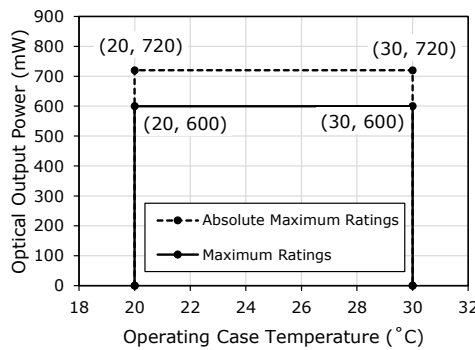

Figure 1. Derating Characteristics
² The maximum rating provided in Figure 1 should not be exceeded.
(1) Laser Hazard
(2) Storage
(3) Design Consideration
- This LD is a semiconductor device that has a high current density during operation in the emission layer. Exceeding the Absolute Maximum Ratings may damage the LD. The circuit must be designed to ensure that the Absolute Maximum Ratings (see Absolute Maximum Ratings and Figure 1) are not exceeded even if the LDs are operated only for a short period of time.
- Since the lifetime of the LD will become shorter as the operating current and/or the optical output power become larger, the maximum ratings provided in Figure 1 should not be exceeded.
(4) Handling Precautions